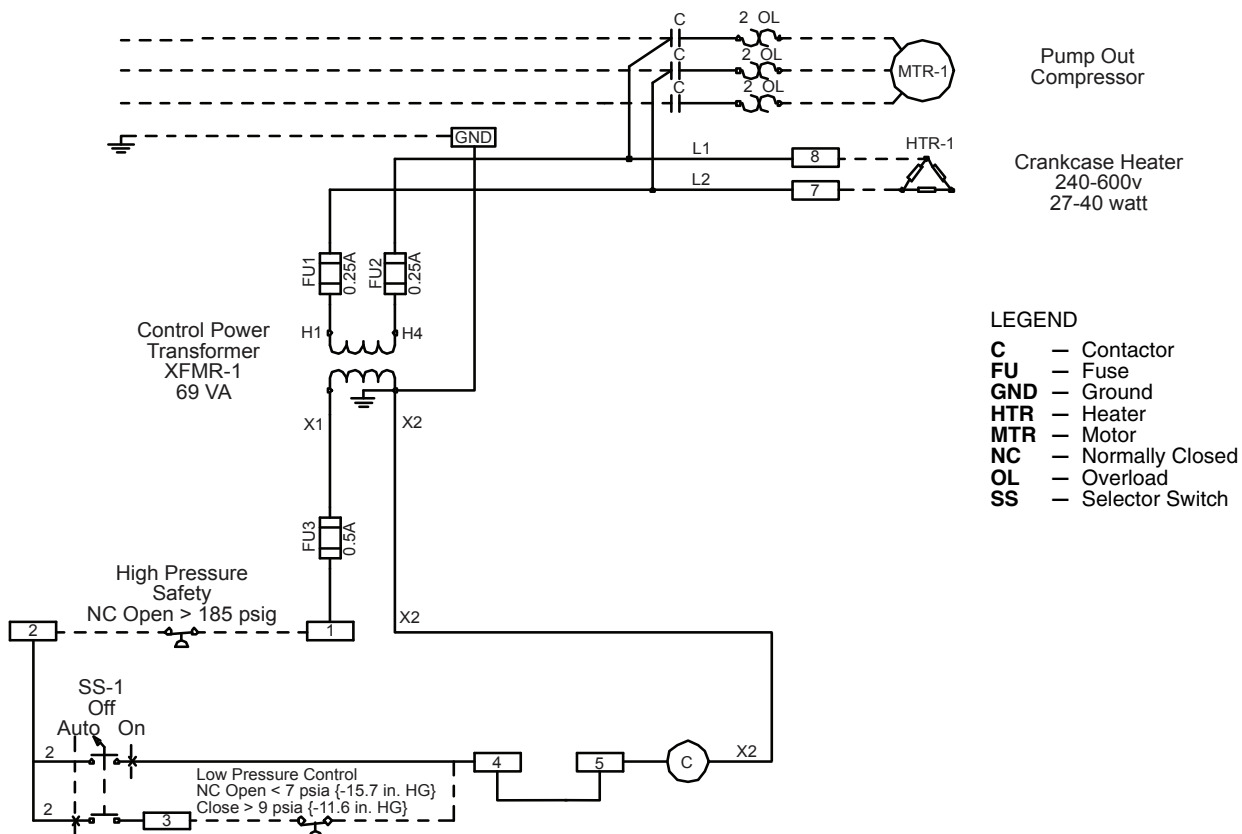

Fig. 48 — 23XRV Pumpout Unit Wiring Schematic
4. Oil should be visible in the pumpout unit compressor sight glass under all operating conditions and during shutdown. If oil is low, add oil as described under Optional Pumpout System Maintenance section, page 58. The pumpout unit control wiring schematic is detailed in Fig. 48.